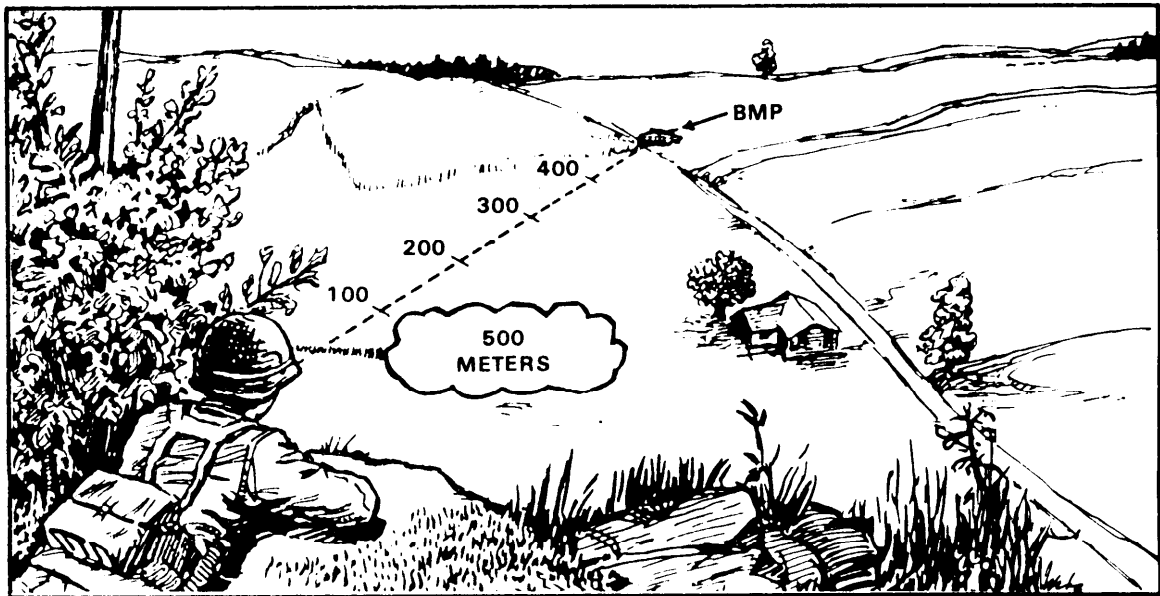
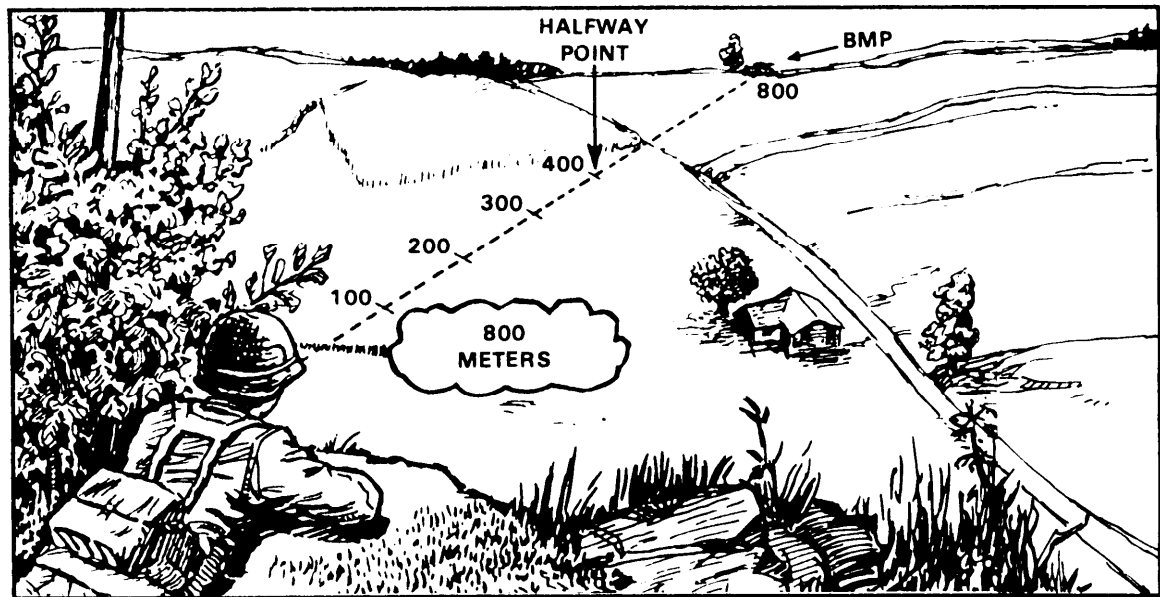

Figure 6-4. Application of the 100-meter unit-of-measure method for ranges up to 500 meters.
Figure 6-5. Application of the 100-meter unit-of-measure method for ranges greater than 500 meters.
a. Using the 100-meter unit-of-measure method, visualize 100 meters on the ground (this takes practice) and determine how many units of 100 meters there are to the target (Figure 6-4). For targets more than 500 meters (5 units) away, pick a point about halfway, estimate the range to that point, and double it (Figure 6-5).